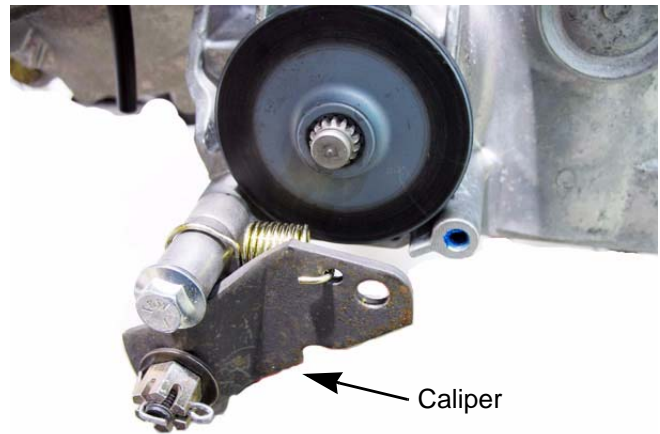

Figure 3.7
5. Remove the front mounting bolt, allowing the caliper to swing down. See Figure 3.7.